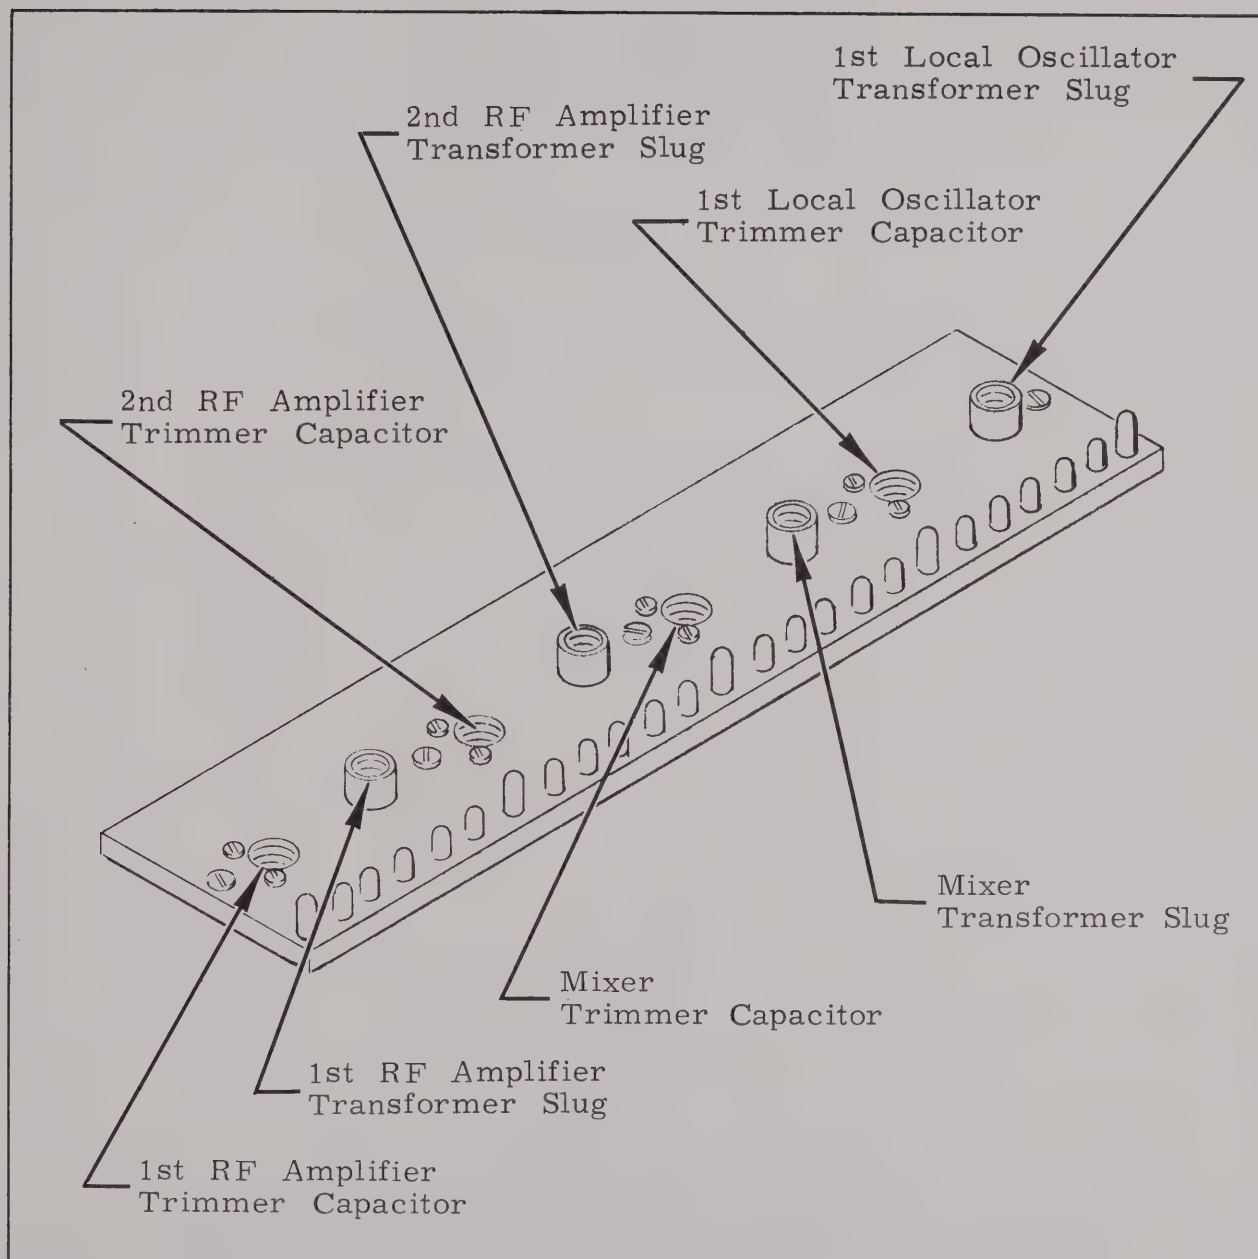

Figure 5-1. Location of RF Tuner Adjustments
- g) The turret tuner strip corresponding to the selected band, and the transformers and capacitors to be adjusted are tabulated in Table 5-4. Also, refer to Figure 5-1 for the physical location of the various adjustment points on the turret tuner strip.